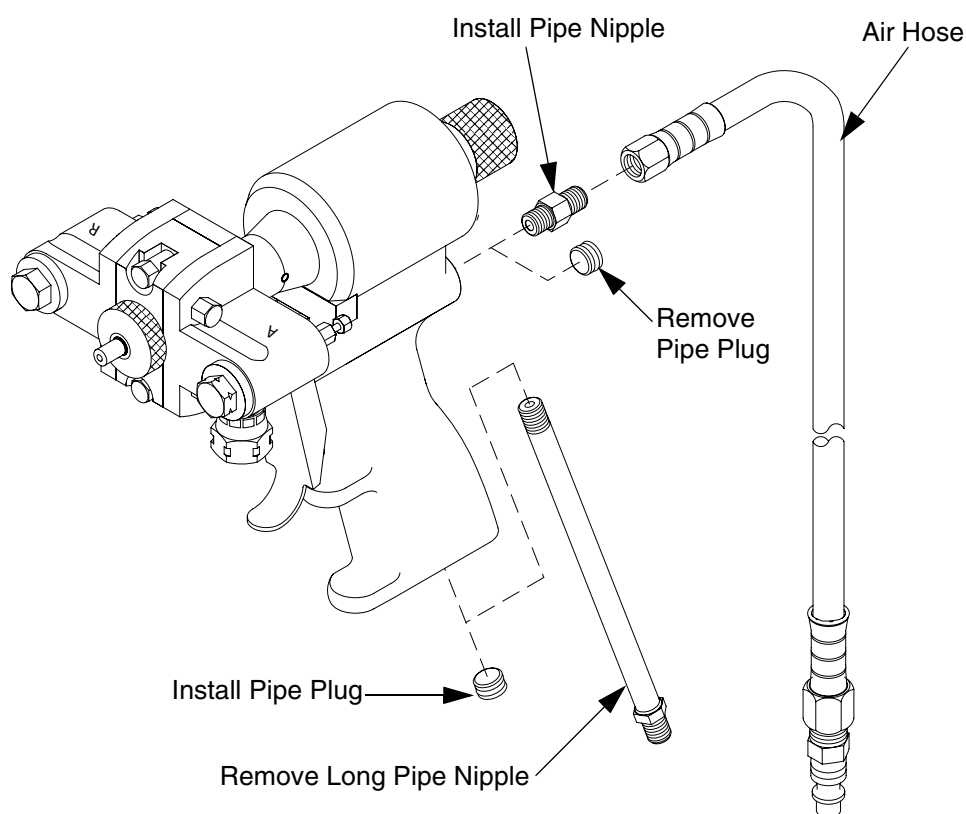

FIG. 6. Air Hose Configuration
1. See FIG. 6. Remove air hose from nipple at base of gun handle.